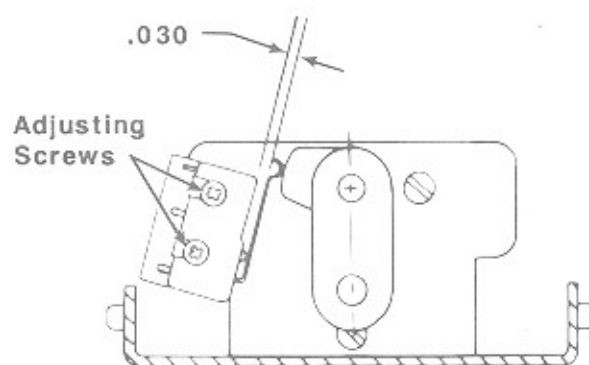

Figure 4-7. Stacker Home Switch Adjustment
Check for a gap of $1/32$ (.030 inch feeler gauge) between the stacker switch arm and the stacker switch body as shown in figure 4-7.
1. Loosen the two adjusting screws as shown in figure 4-7.